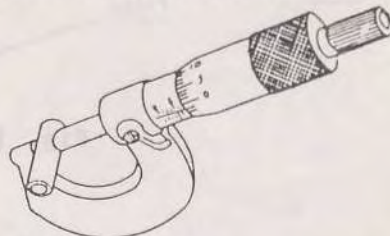

Fig. 14
- (2) Clearance between piston and piston pin (Fig. 14, Fig. 15)